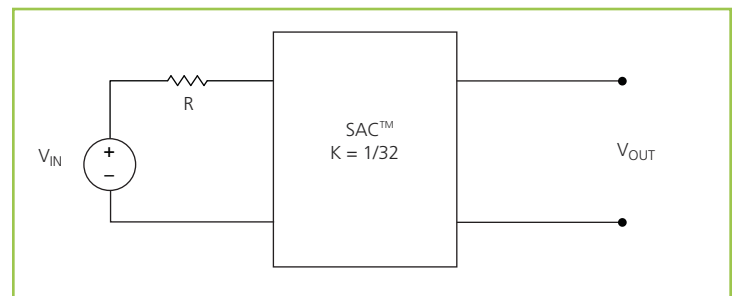

Figure 15 –  $K = 1/32$  Sine Amplitude Converter with series input resistor
interesting attributes. Assuming that  $R_{OUT} = 0 \Omega$  and  $I_Q = 0 A$ , Eq. (3) now becomes Eq. (1) and is essentially load independent, resistor R is now placed in series with  $V_{IN}$  as shown in Figure 15.
Assuming that  $R = 1 \Omega$ , the effective R as seen from the secondary side is  $0.98 \text{ m}\Omega$ , with  $K = 1/32$  as shown in Figure 15.